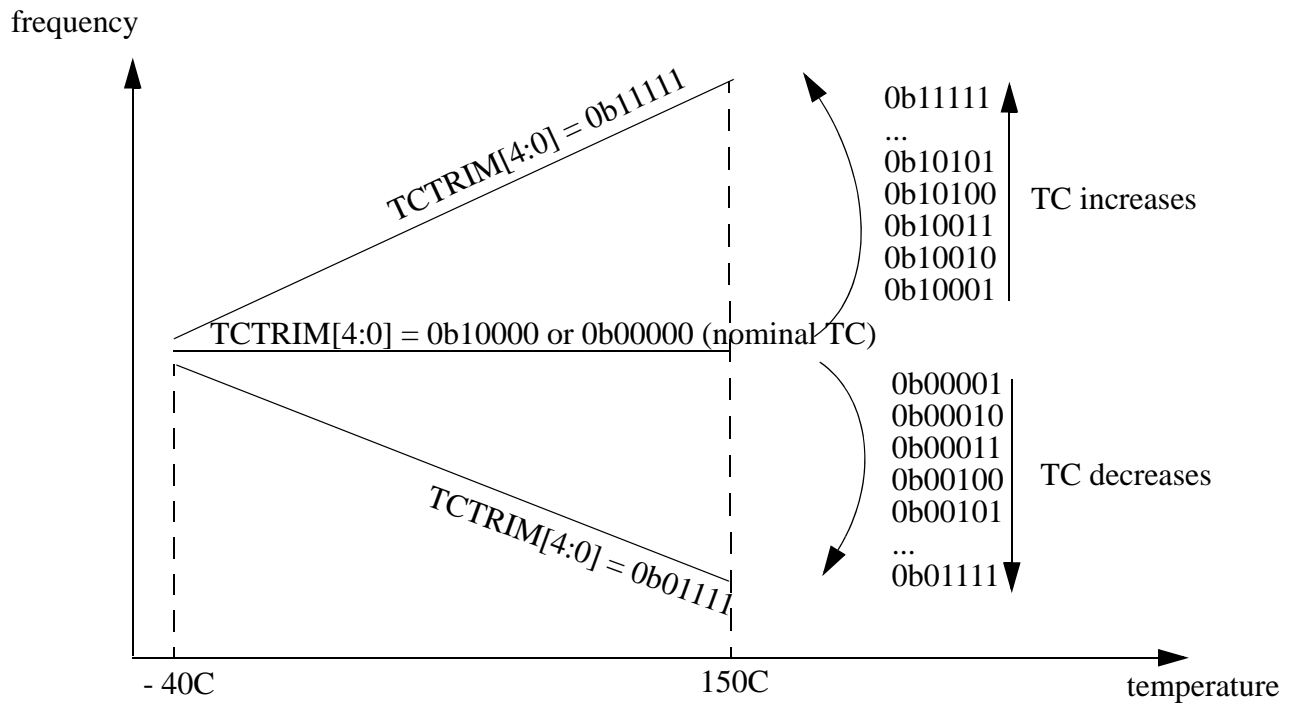

Figure 10-26. Influence of TCTRIM[4:0] on the Temperature Coefficient
15-11 TCTRIM[4:0]	IRC1M temperature coefficient Trim Bits Trim bits for the Temperature Coefficient (TC) of the IRC1M frequency. Figure 10-26 shows the influence of the bits TCTRIM4:0] on the relationship between frequency and temperature. Figure 10-26 shows an approximate TC variation, relative to the nominal TC of the IRC1M (i.e. for TCTRIM[4:0]=0b00000 or 0b10000).